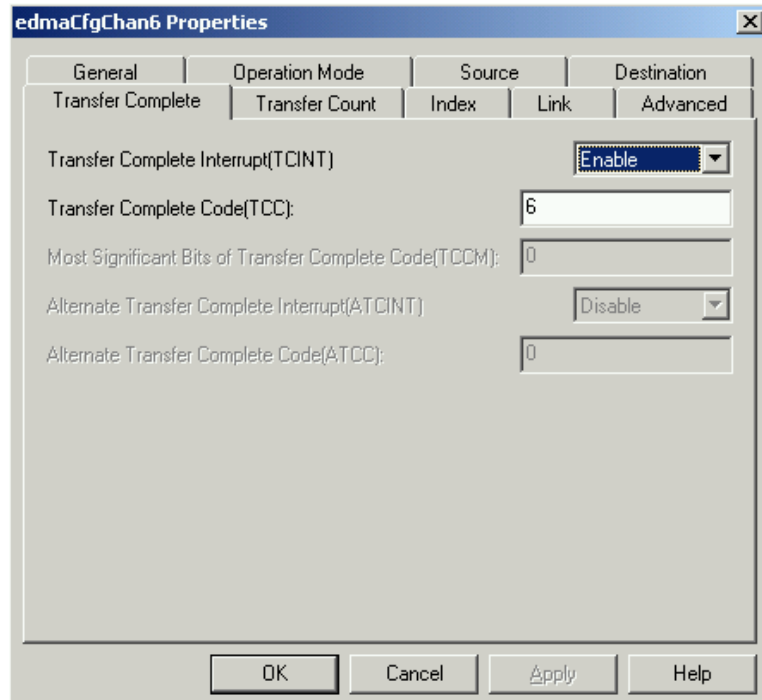

Figure 16. EDMA Chan6 Transfer Complete Tab Options
14. In the Transfer Complete tab select the options as shown in Figure 16. Enable Transfer Complete Interrupt to interrupt the DSP. The controller interrupts the DSP, and transfers complete code 6 when all 0x0400 samples have been read and stored.